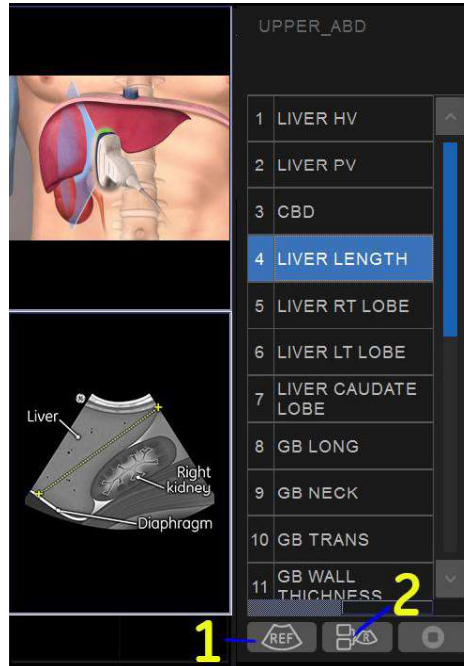

Figure 5-96. Scan Coach Preview
5. Select program, for example, LIVER LENGTH, then select the button 1 on Figure 5-96 to review the reference image.
- The reference image is displayed. Then select the button 2 on Figure 5-96 to view the probe position and schema also. You can also press the button 1 to return to the program step list.